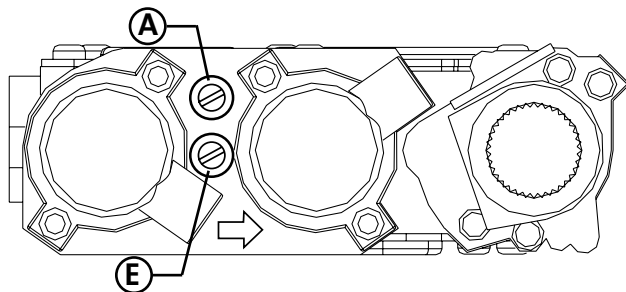

Figure 27. Pressure test points.
**Pressure Test:** Attach a manometer to the appropriate test point on the valve. See fig. 27. The gauge connections are located on the front of the valve. Connections are identified by: